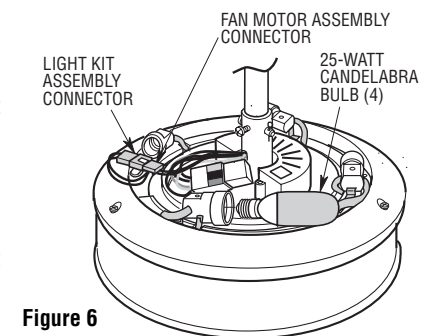

Figure 6
5. Screw the four 25-watt candelabra base bulbs (supplied) into the light kit assembly sockets (Figure 6).